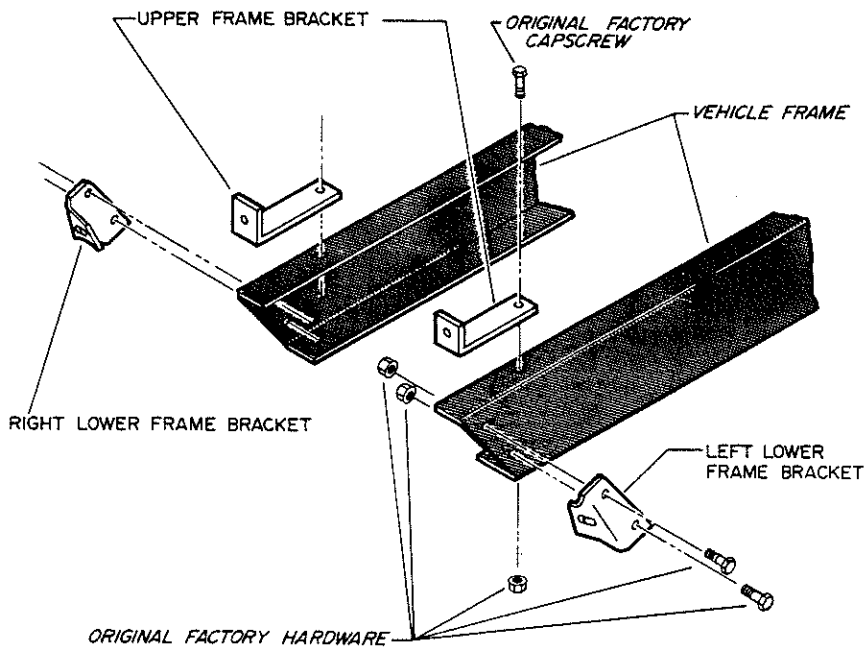

FIGURE 2
2. Remove the front license plate. Remove the brackets which attach the bumper to the front ends of the frame and replace these with the upper and lower frame brackets as show in **Figure 2**. Use the original factory fasteners. Finger tighten only.